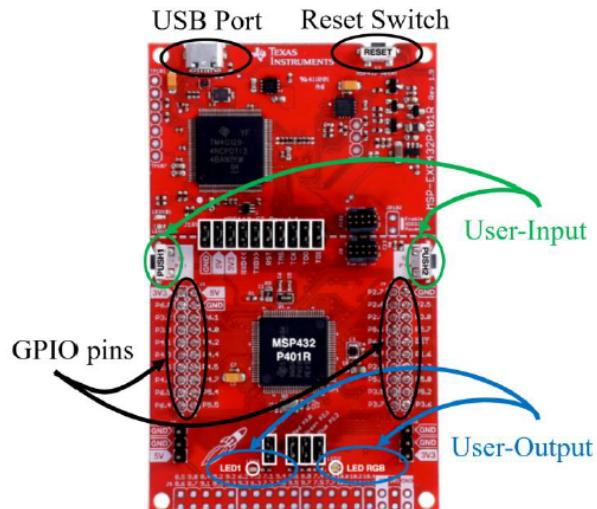

Figure D.4: MSP432 LaunchPad Hardware Layout
This lab uses a specific MCU platform, known as the MSP432 LaunchPad, which is manufactured by Texas Instruments. A photograph of this device is shown in Figure D.4. You may visit http://energia.nu/pin-maps/guide_msp432p401r/ or <http://www.ti.com/tool/MSP-EXP432P401R> for more information.
When looking at Figure D.4, there are a few things to consider:
- Orient the LaunchPad as shown in Figure D.4. That is, ensure that the Texas Instrument Logo is at the top of the board, and the majority of the white labels were right side up.